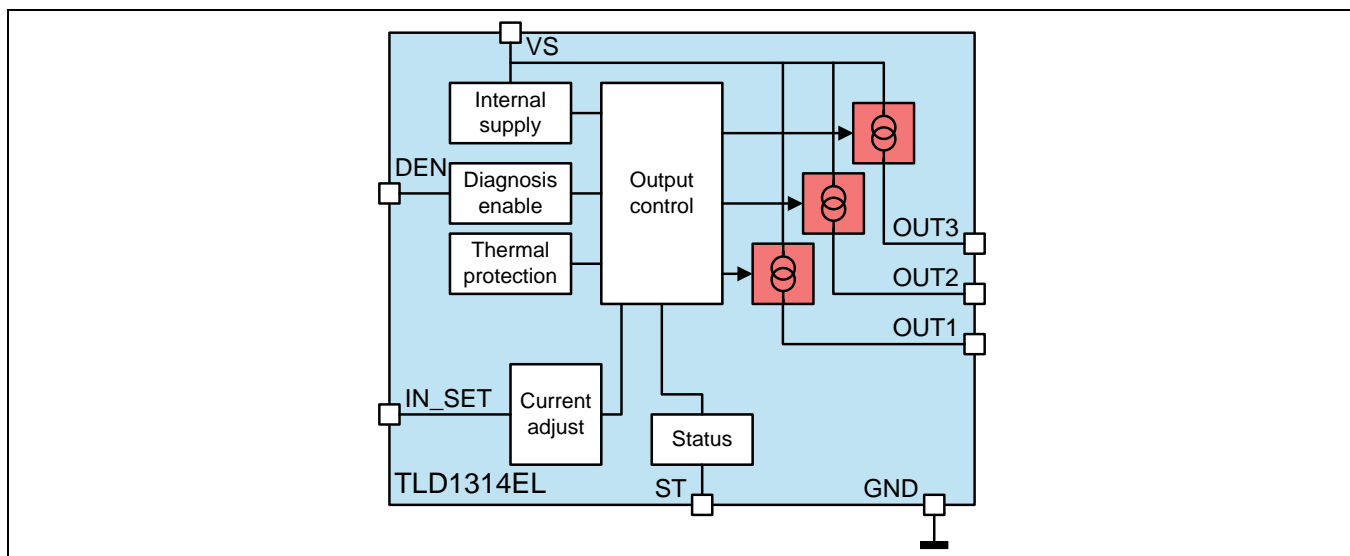

Figure 3 Block Diagram of LITIX™ Basic device with DEN pin (TLD1314EL)
Figure 3 shows the block diagram of the LITIX™ Basic family member TLD1314EL. This device has 1 input (IN_SET), 3 outputs (OUT1, OUT2 and OUT3), diagnostic enable input (DEN), status (ST), supply (VS) and ground (GND) pins. The exposed pad of the package should also be connected to ground in the application. The diagnostic enable (DEN) pin can be used to disable the diagnostic indication of the ST pin in cases of low supply voltage or other application conditions where suppression of the ST diagnostic is desired.